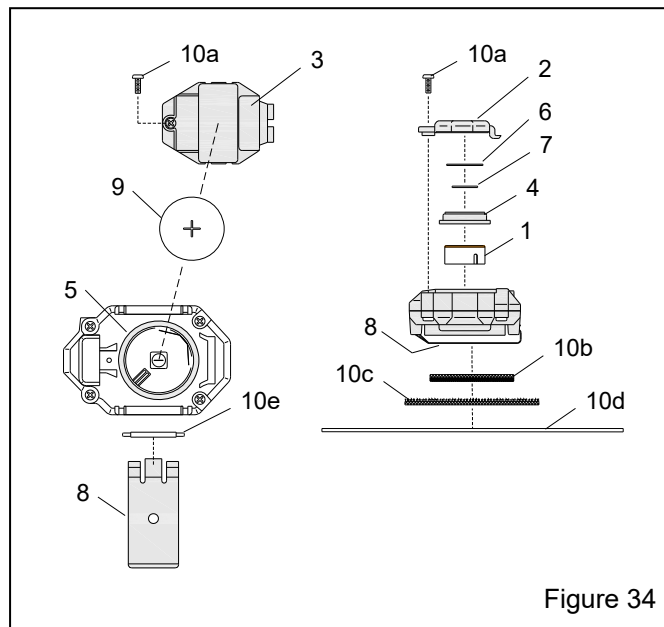

Figure 34
|      | Included with kit 29870, shown in Figure 34  |            |
|      | Included with kit 29870, shown in Figure 34. |            |
8.2 Monitor Replacement Parts – Figure 34